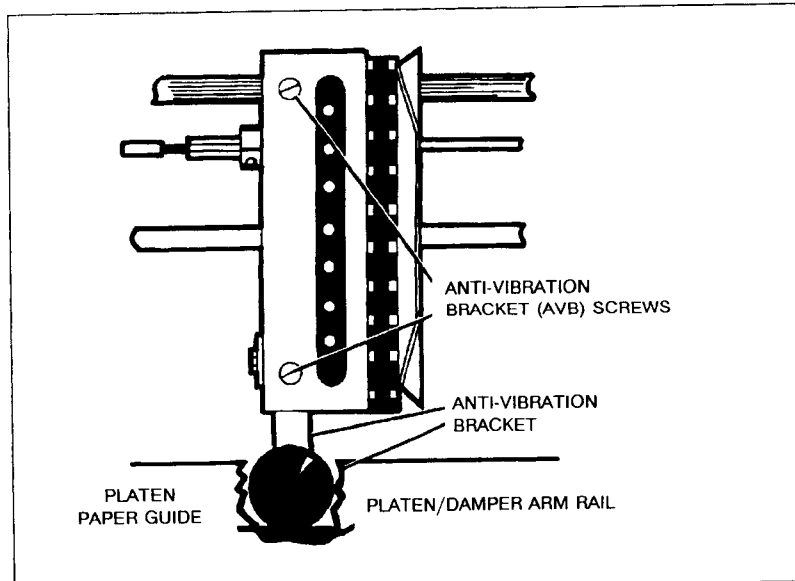

Figure 5-5. Releasing the Anti-Vibration Brackets (AVBs)
- e. Position the AVBs away from the platen. To do this, loosen the two screws in the tractor face plate (these are the AVB screws which secure the AVB), push tractor AVBs away from the platen and into the tractor, and tighten the AVB (faceplate) screws (see Figure 5-5).
- c. Open the tractor doors and slightly loosen the two pozi #1 or slotted faceplate screws, located on the face of each tractor, enough to allow the spring on the bracket to push the roller into the platen rail. Verify that the rollers are fully seated on the rail and retighten the two tractor faceplate screws. (see Figure 5-5).